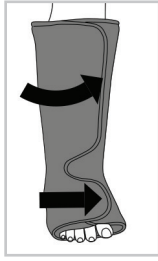

Figure 2
2. Place foot in liner and secure with contact closure. Make sure the heel fits snugly into the posterior portion of the liner. Secure the forefoot flap on the liner first followed by the lower leg portion. Make sure liner fits snug top to bottom (Figure 2).